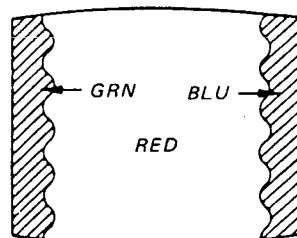

Fig. 3-2.
5. Move the deflection yoke back, and adjust the purity control so that **R** is in the center and **G** and **B** are at the sides, evenly. (Figure 3-2.)